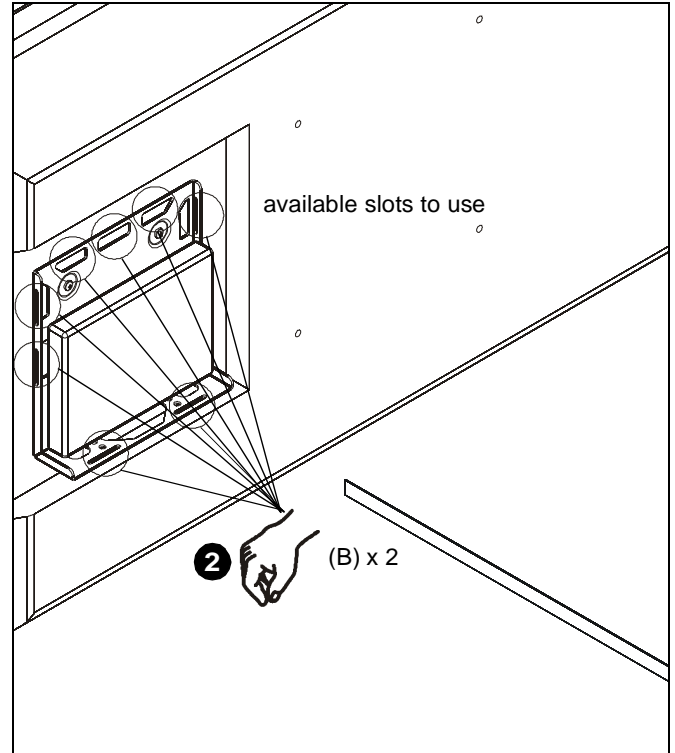

Figure 5
2. Use two hook and loop straps (B) to secure media player to bracket by threading the straps through the various slots on the bracket. (See Figure 5)